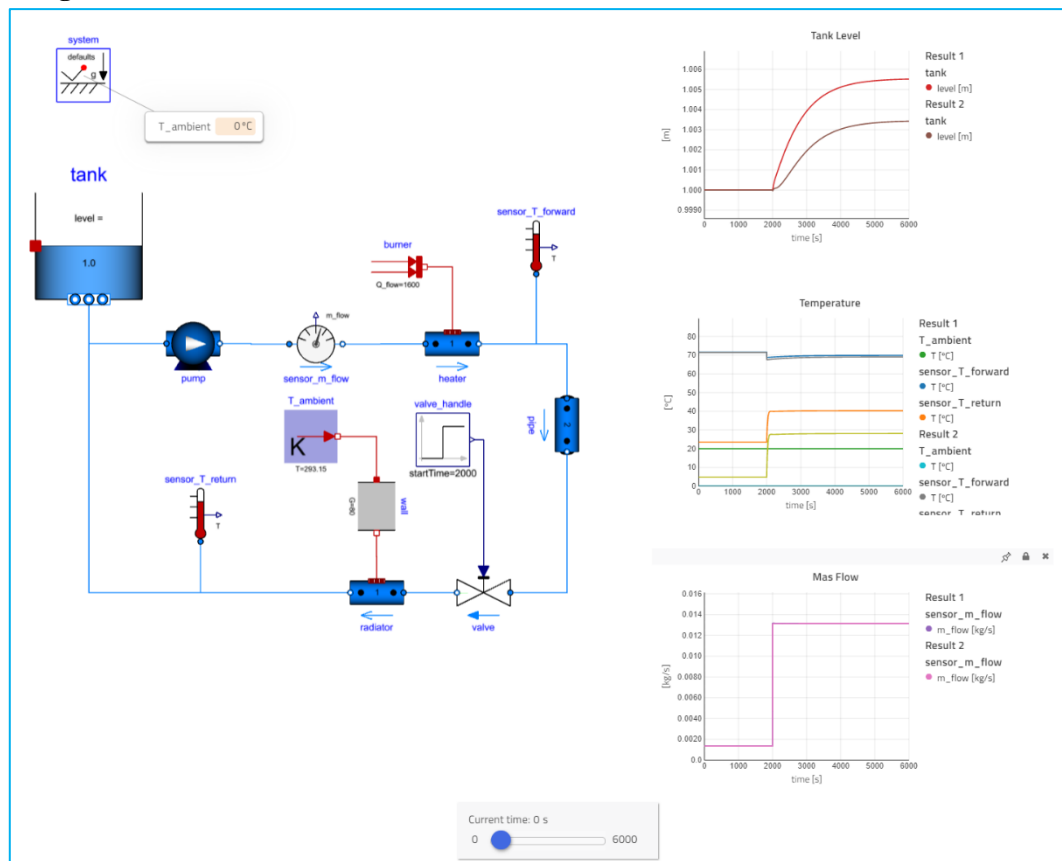
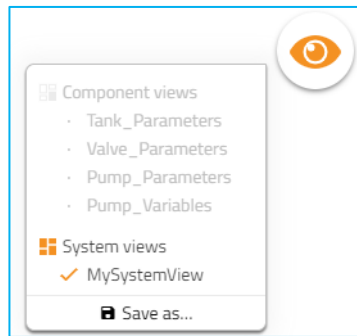

Figure 13 Lower the ambient temperature to 0°C
Figure 14 Saved views
18. Change **T_ambient** to 0 °C in the sticky and re-simulate, the result should look similar to **Figure 13**:
19. **Figure 13** shows a combination of three plots and a sticky for our system model. To save this view for future use, hover the view button (👁) and save the view with **Save as...**, see **Figure 14**; let us name the view **MySystemView**. This is a *System view* as it includes variables or parameters from various components in the system.
- Hovering over the view button (👁) and toggling them on (see **Figure 14**)